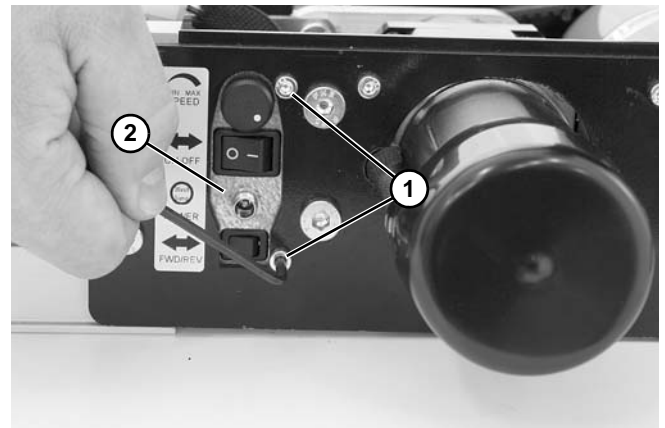

Figure 159
4. Remove two socket head screws (**Figure 159, item 1**) and switch assembly (**Figure 159, item 2**) from conveyor frame.